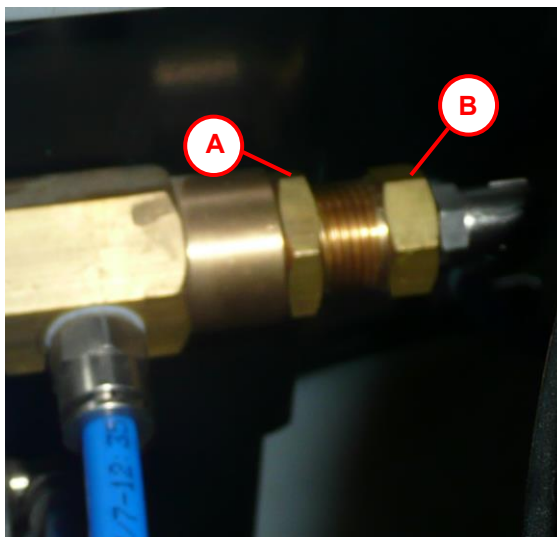

Figure 11.2.1 Adjusting maximum air pressure of the compressor
- 4) Open the hood with the engine running and loosen the 22mm lock nut (Letter A in Figure 11.2.1) on the maximum pressure valve
- 5) To increase the maximum pressure, tighten the 19 mm nut (Letter B in Figure 11.2.1)
- 6) To reduce the maximum pressure, loosen the 19 mm nut (Letter B in Figure 11.2.1)
- 7) Tighten the lock nut when the appropriate pressure is obtained (Letter A in Figure 11.2.1)